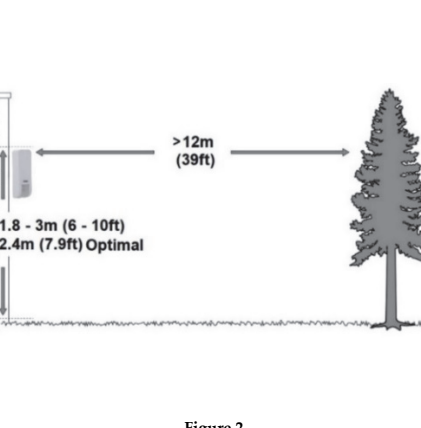

Figure 3
Step 2: PIR Coverage Pattern (see Figure 3)